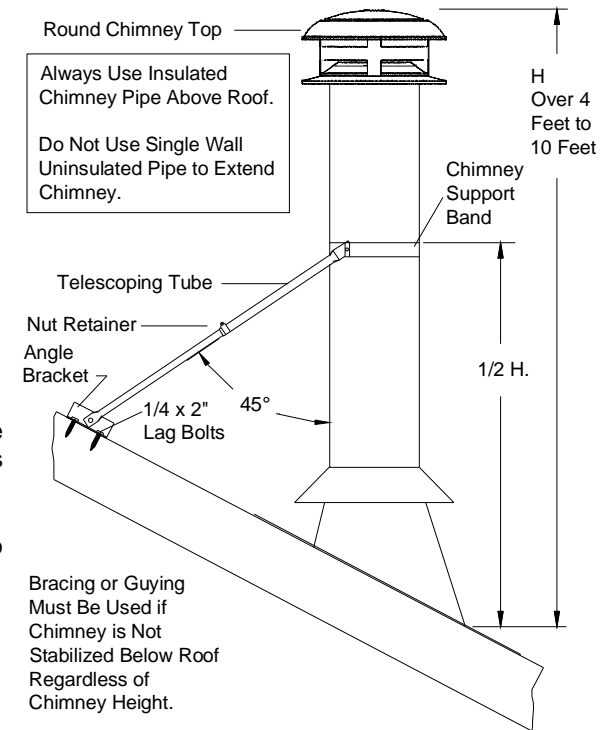

Fig. 1 Typical Roof Bracing
**A.** Place the Chimney Support Band around the chimney at a minimum height of 1/2 (2/3 or greater if possible) the distance that the chimney extends above the roof. See Fig. 1. Secure the Chimney Support Band using two (2) 1/4" X 2" and two (2) 1/4" x 1/2" bolts and nuts.